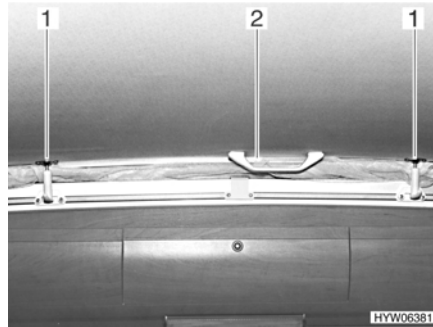

Fig. 22 Lifting roof, closed
- Remove all spring clamps (Fig. 22,1) downwards out of the holder.
- Press the lifting roof up (Fig. 22,2) using the handles.
- Pull the lifting roof down by the handles (Fig. 22,2) at the rear.
- Pull all spring clamps (Fig. 22,1) down and lock into place.